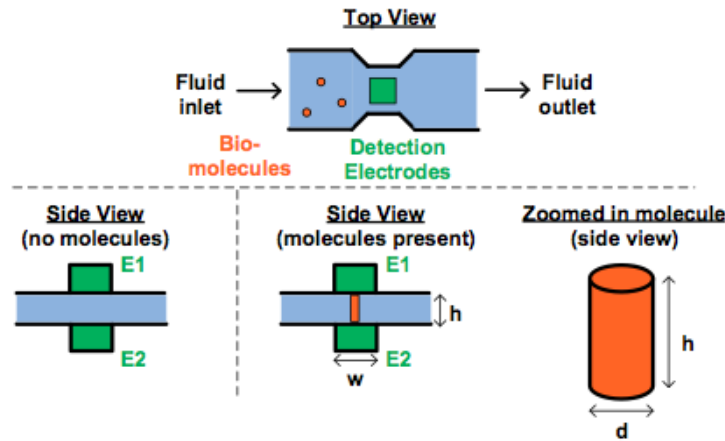

Figure 1: Bio-molecule detector.
As shown in Figure 1, the detector works by flowing a liquid that may or may not contain the biomolecules through a region in the device that has electrodes on the top and bottom of the liquid channel. The electrodes (E1/E2 in Figure 1) are chemically “functionalized” (using e.g. some appropriately designed antibodies), so that if the specific bio-molecule of interest is present in the fluid sample, one or more of the molecules will get physically trapped between the two electrodes (bottom right of Figure 1). After all of the fluid has
- (a) Let's first assume that we want to detect the presence of a bio-molecule by measuring resistance. If no bio-molecule is present, what should be the resistance between E1/E2? As shown in Figure 1, if each bio-molecule is a cylinder with diameter $d = 10\text{nm}$, height $h = 100\text{nm}$, and has a resistivity $\rho = 100\mu\Omega\text{m}$, what would be the resistance between E1 and E2 if only a single bio-molecule has been trapped? Note that you can assume that the trapped molecule is exactly vertically oriented when it is trapped – i.e., the top and bottom faces of the molecule are both aligned with surfaces of the electrodes.